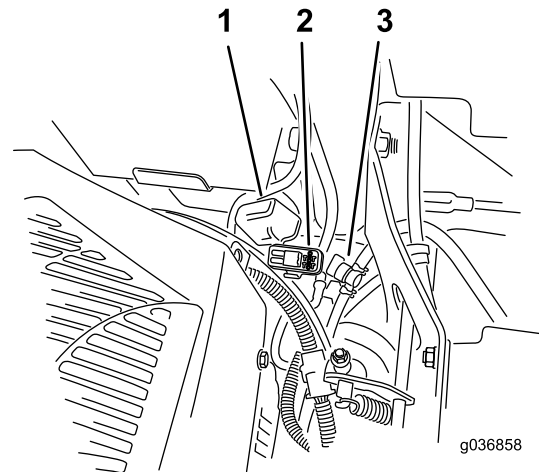

Figure 66
**Note:** For MyRide machines, ensure that the ground cable does not rub against the trailing arm or lower shock mount (Figure 66).
The fuses are located on the right console next to the seat (Figure 66).
2. Install a new fuse (Figure 66).